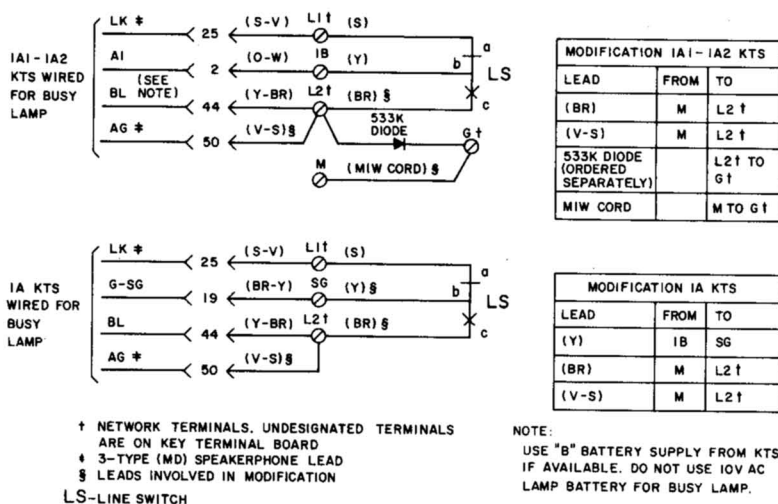

Fig. 3—Station Busy Lamp Circuit with 3-Type (MD) Speakerphone
**2.03** When used with 1A KTS, modify set as shown in Fig. 3.